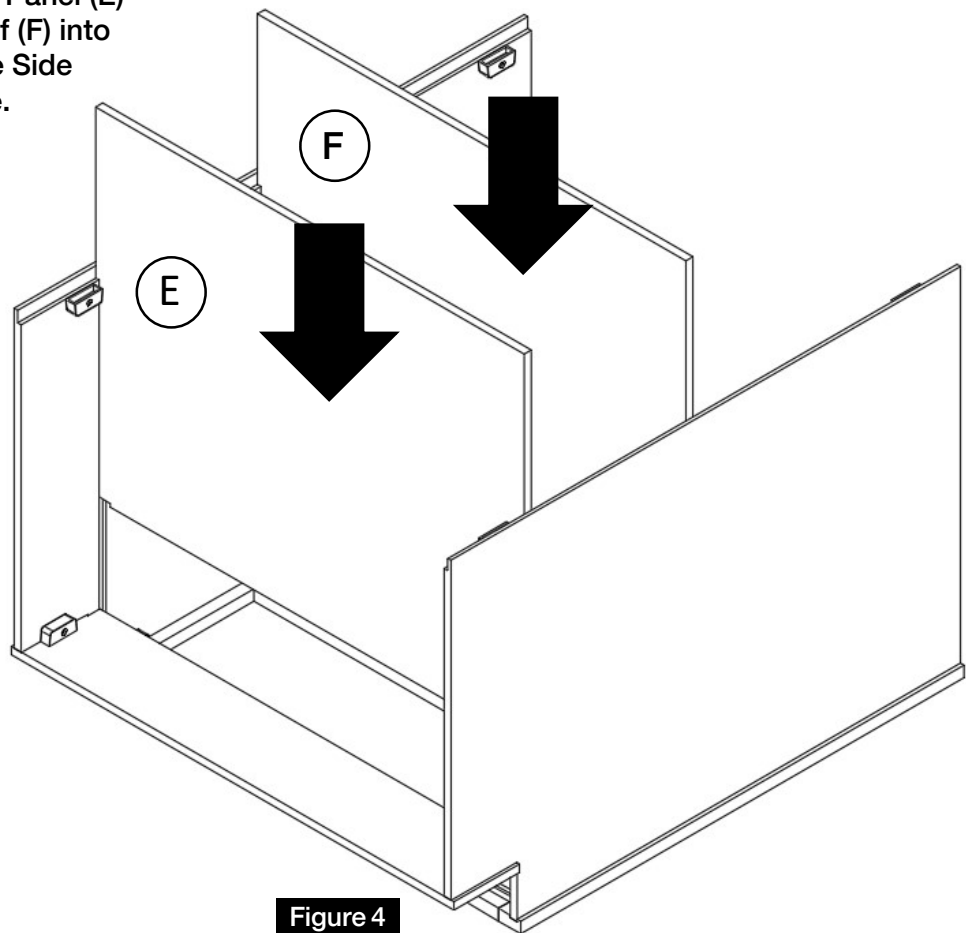

Figure 4
Insert the Bottom Panel (E) & Microwave Shelf (F) into the grooves of the Side Panels and Frame. (Figure 4)